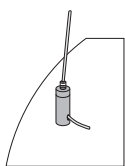
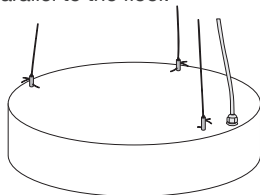

Fig. 2
Fig. 3
4. Feed each cable through the appropriate side exit cable gripper (Fig. 2 & Fig. 3). The Zip Cloud fixture should be parallel to the floor.